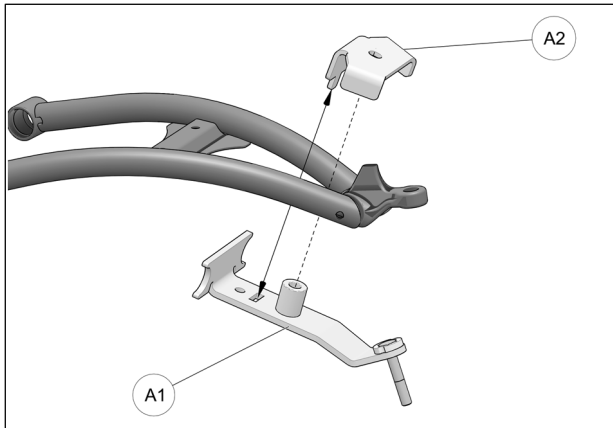

Fig. 11
- Position bottom part of anchor bracket (A1) assembly under front lower suspension arm, as shown in the figure below. Position bracket cover (A2) over suspension arm and align holes in cover and bottom part. Refer to Fig. 11